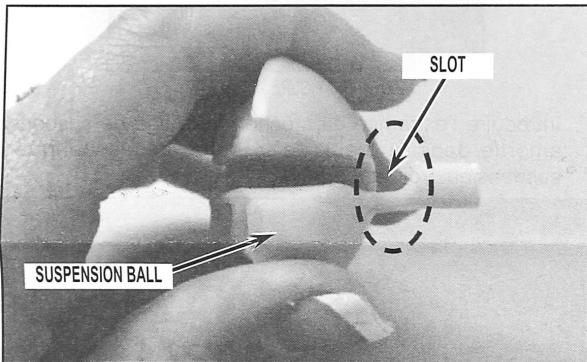

FIGURE 1
2. Hold suspension ball on its side with the slot feature facing up. See *Figure 1*.